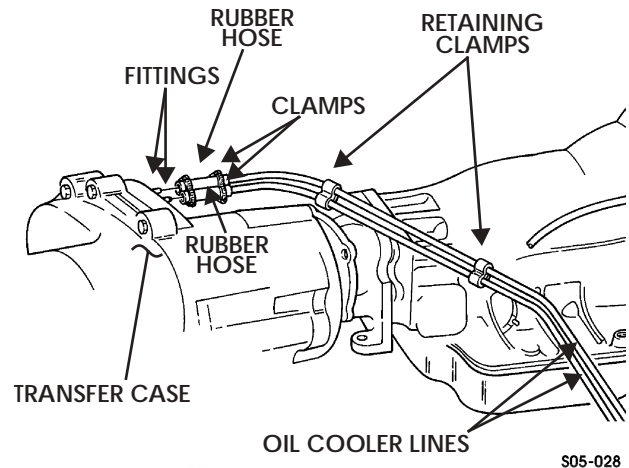

Figure 5-77: Transfer Case Cooler Lines
3. Loosen clamps and disconnect rubber hoses from fittings on transfer case (Figure 5-77).